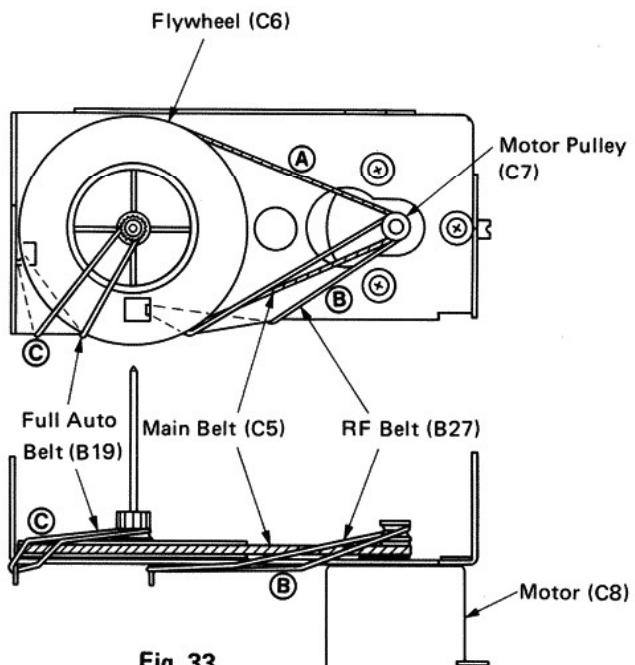

Fig. 33
- 2 Hang the main belt (C5) on the flywheel (C6) and the motor pulley (C7). ① (A)
- 3 Hang the RF belt (B27) on the raised hook part of the bracket and the motor pulley (C7). ② (B)
- 4 Hang the full-auto belt (B19) on the raised hook part of the bracket and flywheel. ③ (C)
- 7 Hang the RF belt (B27) on the RF clutch assembly (B26) and the full-auto belt (B19) on the pulley (B18). (Fig. 33)